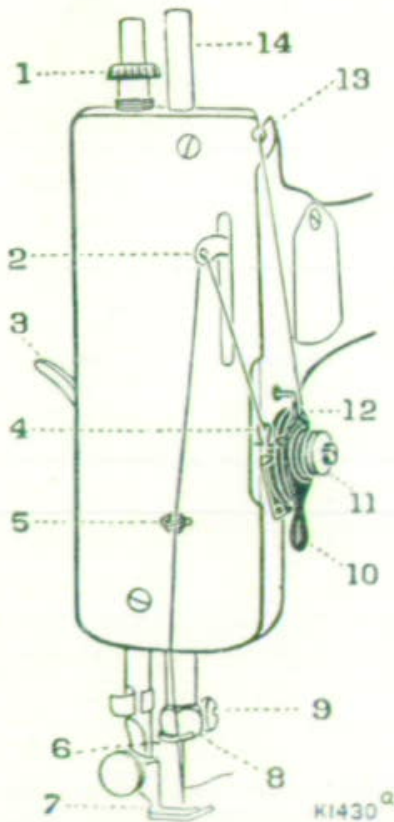
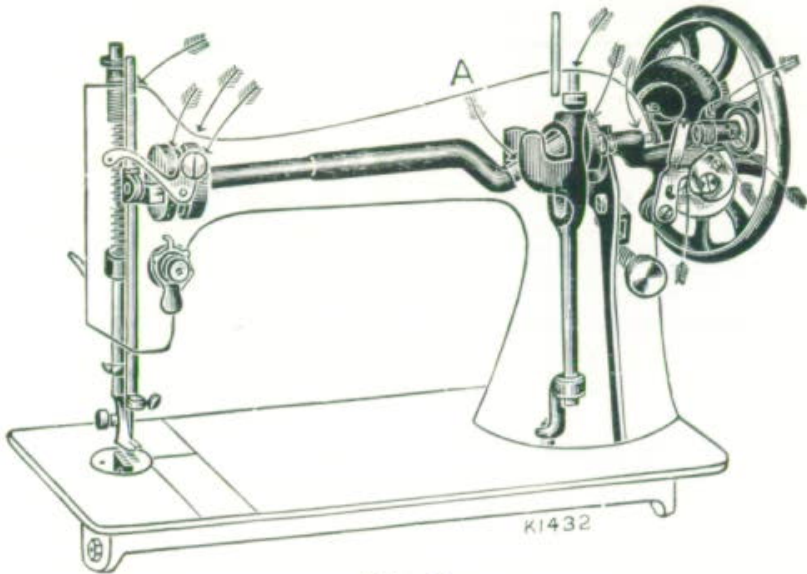

Fig. 5.
Fig. 14.
Tighten the balance wheel (see Fig. 3) and place a piece of material under the presser foot (7, Fig. 5). Then lower the latter by means of the lifter (3, Fig. 5). Now **turn the handle over from you** to work the machine, without its being threaded, until you are accustomed to guiding the material with the left hand.
(See Fig. 5)
Loosen the balance wheel (see Fig. 3) and push the top of the winder from you until its rubber ring (5) just touches the ledge of the balance wheel. Turn the latter over towards you until the thread guide (2) moves to the extreme right. Place a reel of thread on the spool pin and pass the end of thread through the notch at top of the face plate (13, Fig. 5); then thread the winder by passing the thread upward through the eyelet (1) and into the notch (2). Draw the knob (3) to the left, and place an empty bobbin between the cup at the right (4) and the centre hole at the left. Now clamp the end of thread between the cup and the end of the bobbin, turn the balance wheel towards you and wind by operating the machine as when sewing. When nearly full remove the bobbin by pulling the knob (3) to the left; then withdraw the winder from the ledge of the balance wheel and tighten the latter by turning the stop motion screw from you.
Raise the needle bar to its highest, lift the presser foot (7, Fig. 5), at the same time pressing the tension release (10, Fig. 5) with the thumb of the right hand. Move the material back and to the left, and sever the threads by passing them over the thread cutter above the presser foot. Leave a few inches of thread under and at the back of the presser foot.
For ordinary family sewing it is seldom necessary to change the pressure on the material. If sewing fine silk or flimsy material, lighten the pressure by giving the thumb screw (1, Fig. 5) two or three turns upwards. To increase the pressure, give the thumb screw a few turns downwards.
If used constantly, the machine should be oiled daily, while with moderate use, an occasional oiling is sufficient. A drop of oil applied at the points indicated by arrows in Figs. 14 and 15 is sufficient. The small plate in front of the machine and the larger plate at the back should both be turned up and oil applied to the parts exposed. **It is important that oil be applied to point "A," Fig. 14, when the take-up lever (2, Fig. 5) is at its lowest, and a little oil rubbed over the surface of the shuttle race.** There are also two holes in the hand attachment to which oil should be applied occasionally. When oiling, insert the oil can spout well into the holes.
The thread take-up spring (4, Fig. 5) is not broken.
**Stitches Looping.** See that the spring (4, Fig. 5) is not broken, that the upper and under tensions are equal (see page 11), that both shuttle and needle are properly threaded, that the thread is of good quality and of correct size for the needle (see table on inside of back cover).